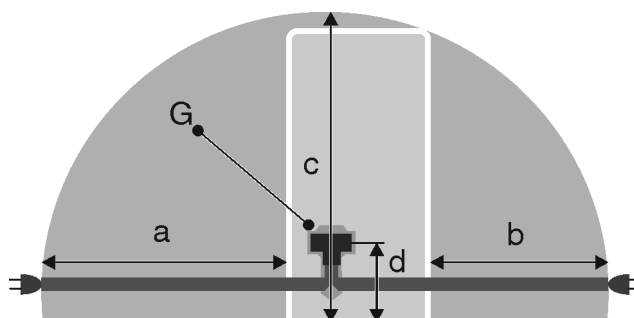

Fig. 23 *
- The socket is not located behind the appliance but in areas a or b *Fig. 23 (a, b, c)*.
- ▶ Insert the appliance plug *Fig. 23 (G)* into the back of the appliance. Ensure that they latch into place.